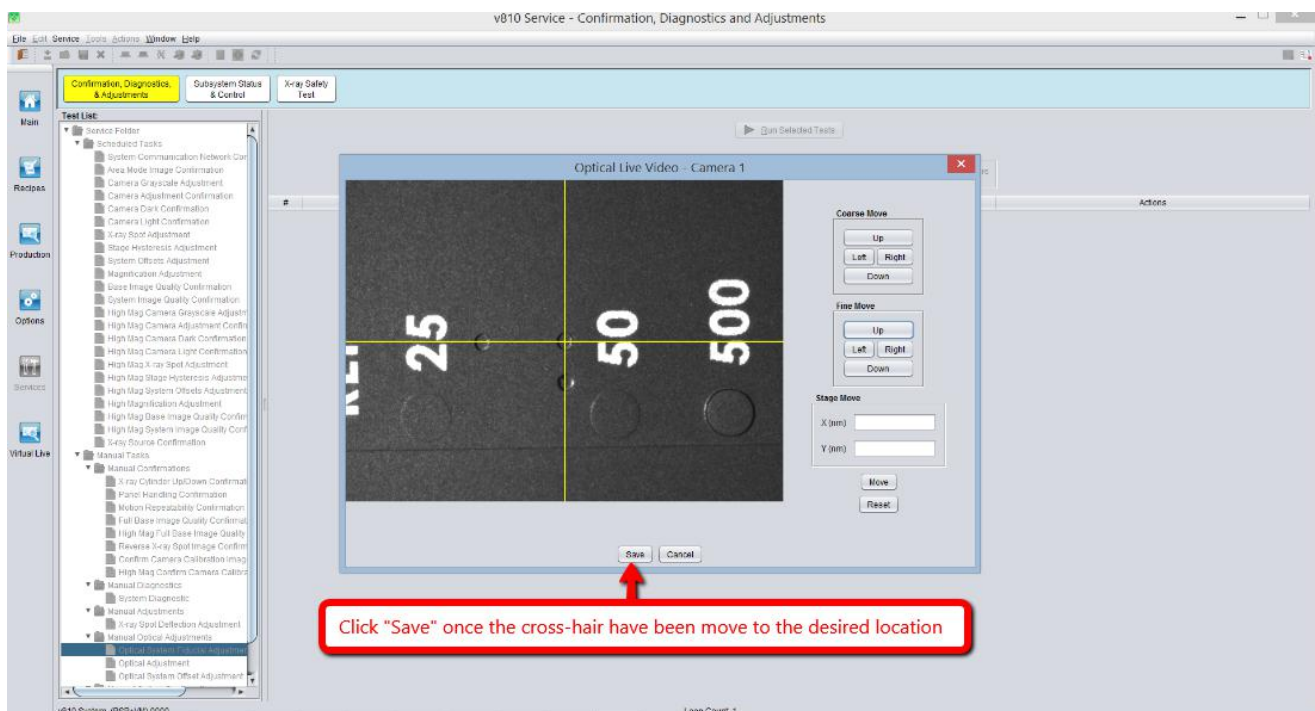

Figure 11 Front PSP Module Adjustment
11. Move the cross hair to the location shown in the Figure 11. Once the location has been confirmed, click save as shown in the Figure 11.